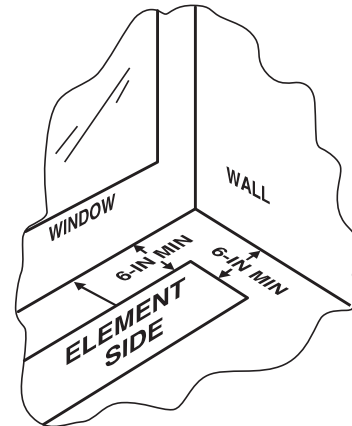

Figure 2A: Clearance to Wall/Window
All sides of the heater must have 6" of clearance to wall, minimum. **Note:** element side of heater is intended to be closest to the window. See figure 2A.
- Units are for in-floor use only – reference Fig. 2A